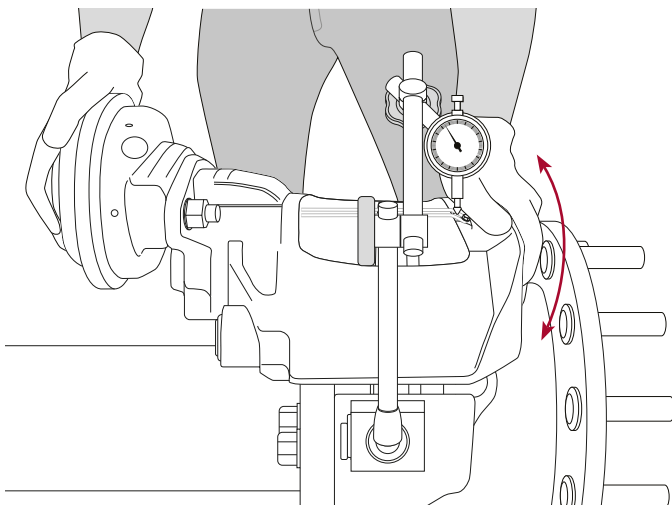

Figure 132: Rocking Calliper to Measure Guide Play with Dial Gauge
3. Tilt calliper towards axle and set dial indicator to zero. Refer Figure 132.
4. Pull calliper away from axle and read indicator. Calliper free play should not be more than 2 mm (0.080"). Refer Figure 132.